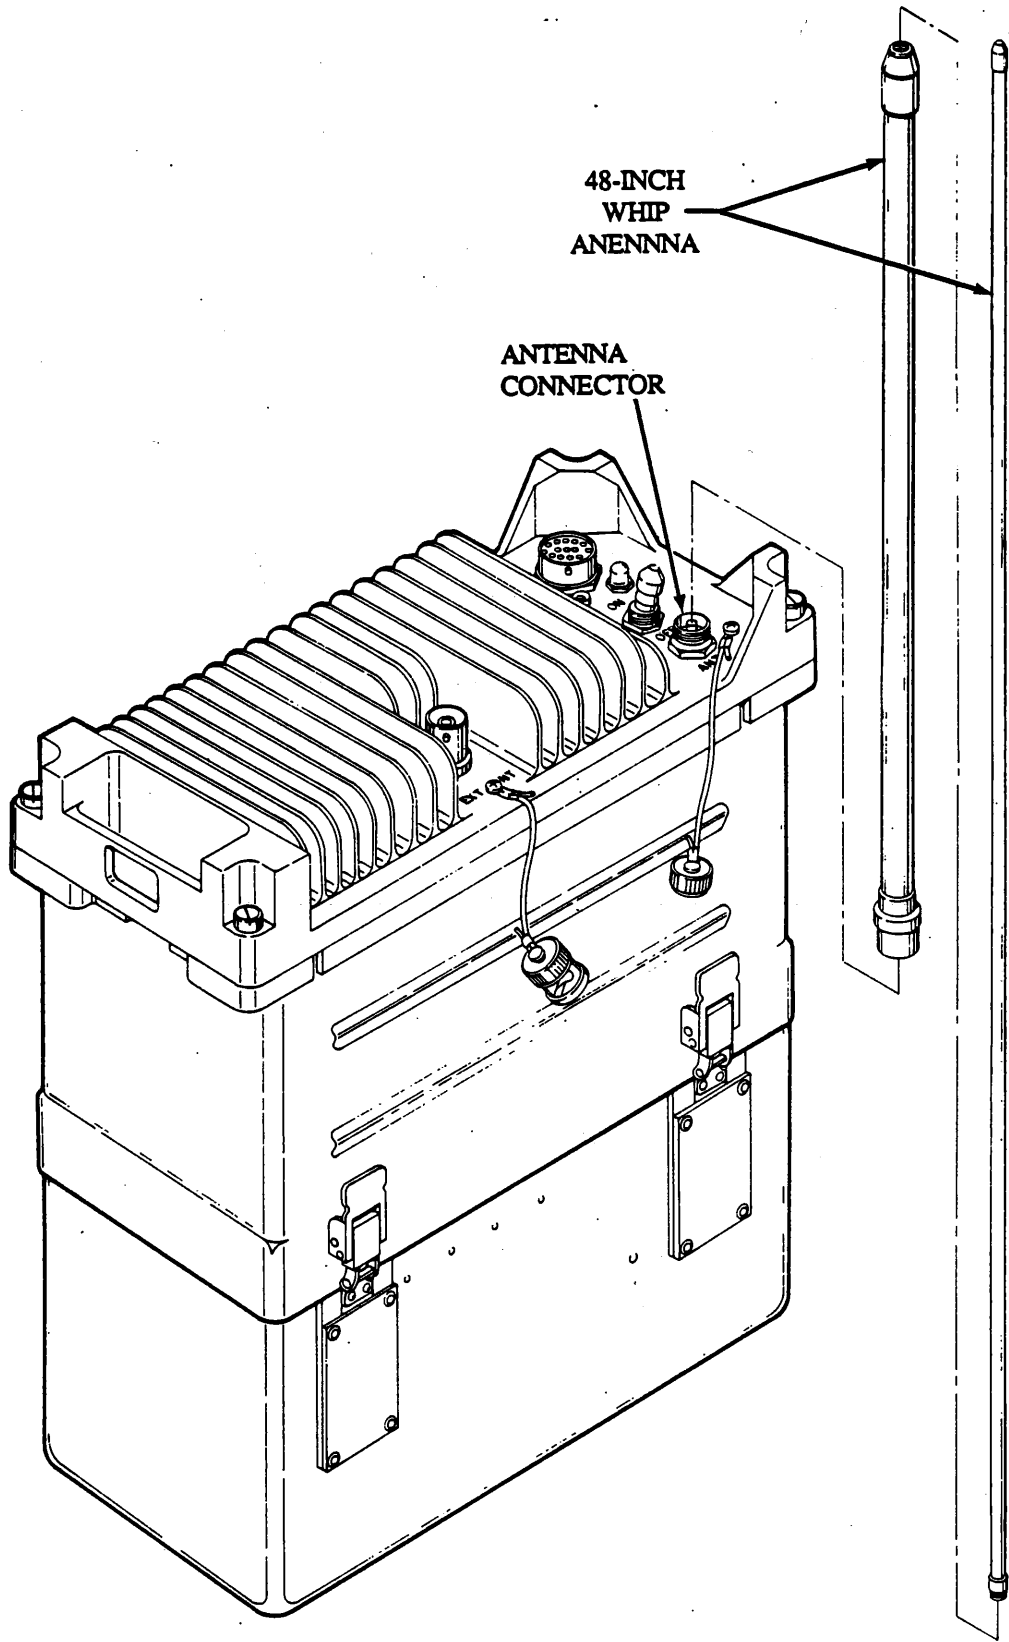

Figure 2-5. VHF Antenna Installation
2. Join antenna sections together, and connect the whip assembly to ANT connector on the top panel of the VHF assembly (See Figure 2-5).
4. Orient the VHF assembly over the Battery Pack as shown in Figure 2-5. Lower the VHF assembly onto Battery Pack; the connectors should seat automatically. To secure section, snap four latches into their closed position.